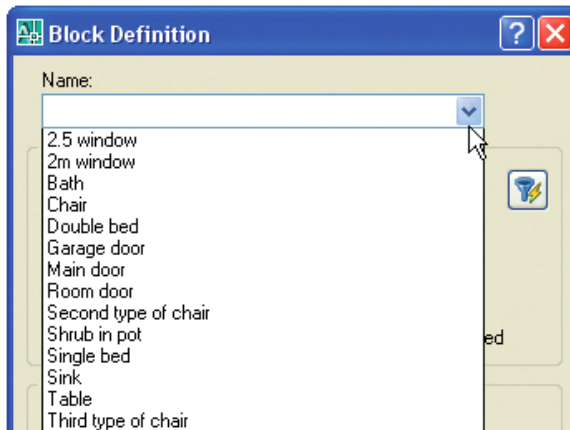

Fig. 9.4 The popup list in the **Name** field showing all blocks saved in the drawing
- 4. Open the **Block Definition** dialog again and *click* the arrow on the right of the **Name** field. The blocks saved in the drawing appear in a popup list (Fig. 9.4).